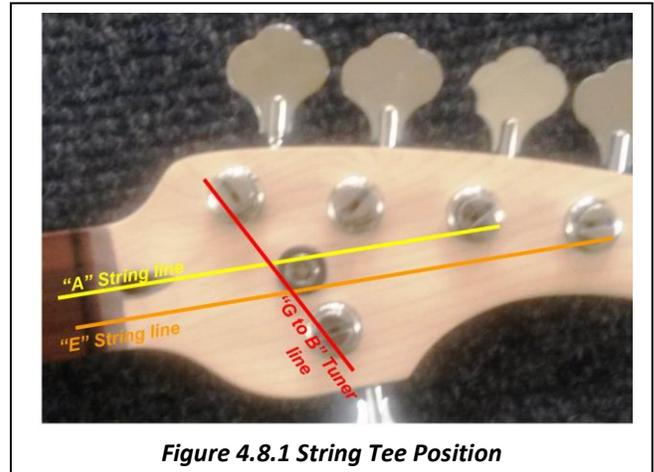

Figure 4.8.1 String Tee Position
1. Snug up the E & A strings. To protect the guitar finish while installing the String Tee, place a piece of tape on the headstock approximately at the intersection of (Figure 4.8.1):
2. Using a String Tee (item #13 on the material list), mark the headstock at the intersection of the three lines as shown in Figure 4.8.1.